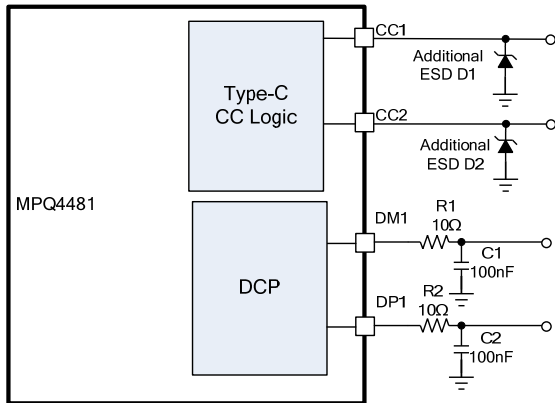

Figure 11: Recommended I/O Pins ESD Enhancing
ESD level for covering complicated application environments, additional resistors and capacitors can be added (see Figure 11).
10) See Figure 11 for the CC pins' ESD protection enhancing details.